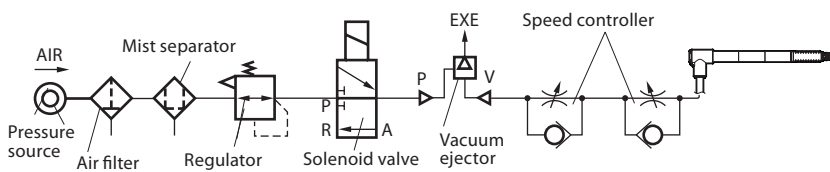

Fig. 1 Air-pass system
- When using a vacuum ejector or other device to operate the feeler through the air feed port, use an air-pass system such as shown in Fig. 1 to enable air driving. The optimum vacuum rate is 0.04 to 0.067 MPa.
- If the spindle ejection speed is too fast, an error may appear on the display the moment that the workpiece is touched. Excessive impact may dislodge the retainer inside the bearing, causing the measuring range to be reduced. In this case, use a speed controller as shown in Fig. 1 to adjust the spindle speed.